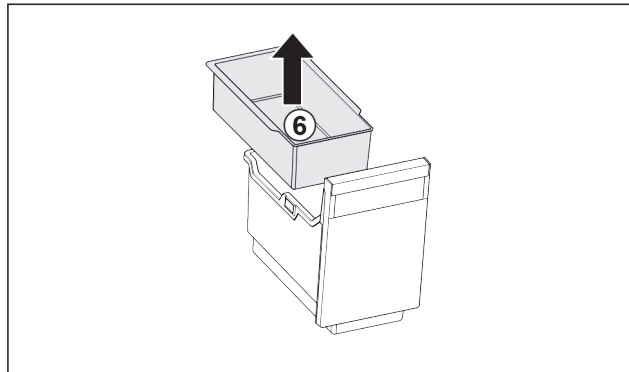

Fig. 98
- ▶ Remove the hang-on tray Fig. 98 (6).